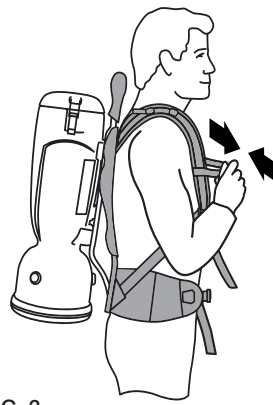

FIG. 3
3. Ensure Micro Cloth bag is fully seated on Comfort Pro tank housing. (Fig. 3)
5. Adjust the sternum strap on a comfortable part of your chest and close the strap. (Fig. 3)